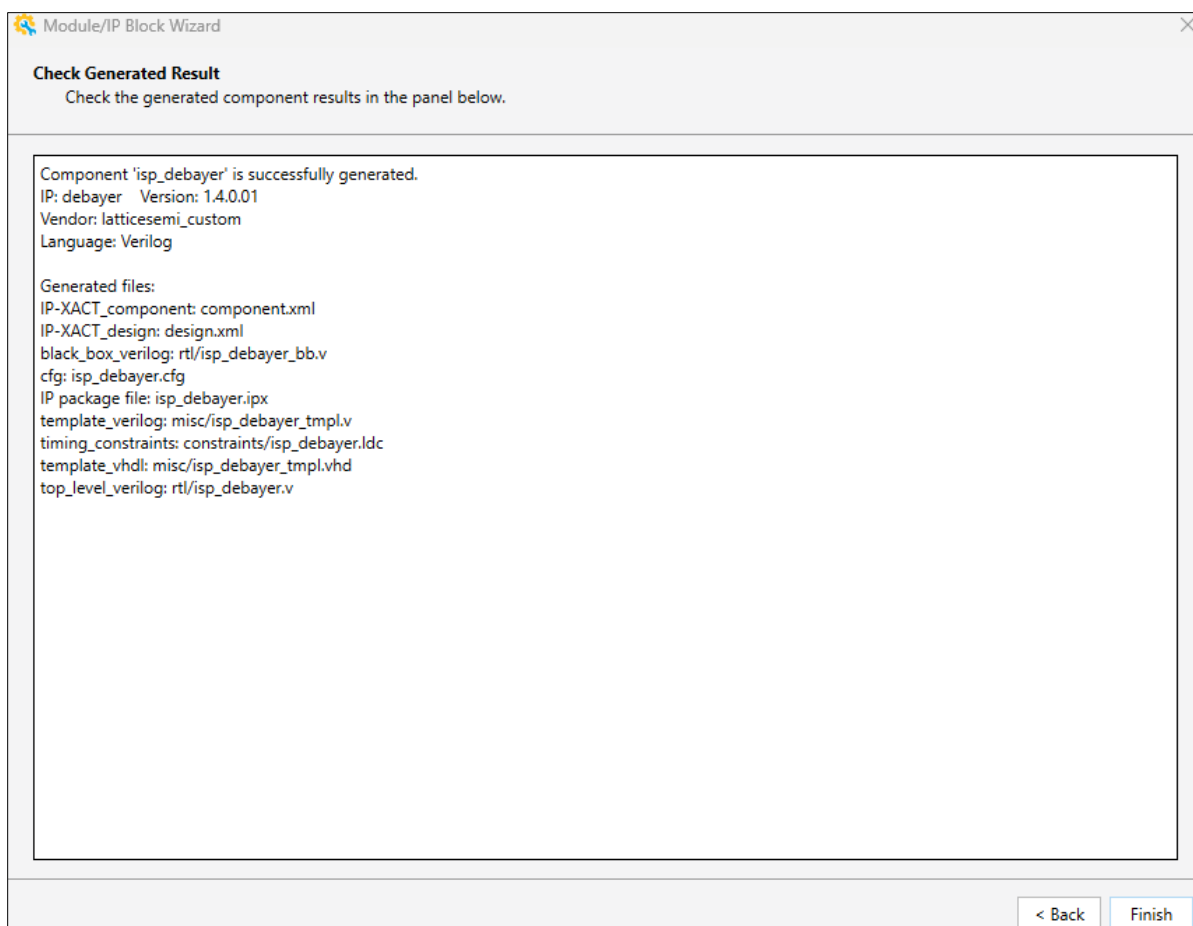

Figure 7.8. Debayer IP Check Generated Result Window
4. After the generation is completed, click **Finish** in the **Check Generated Result** window (Figure 7.8).